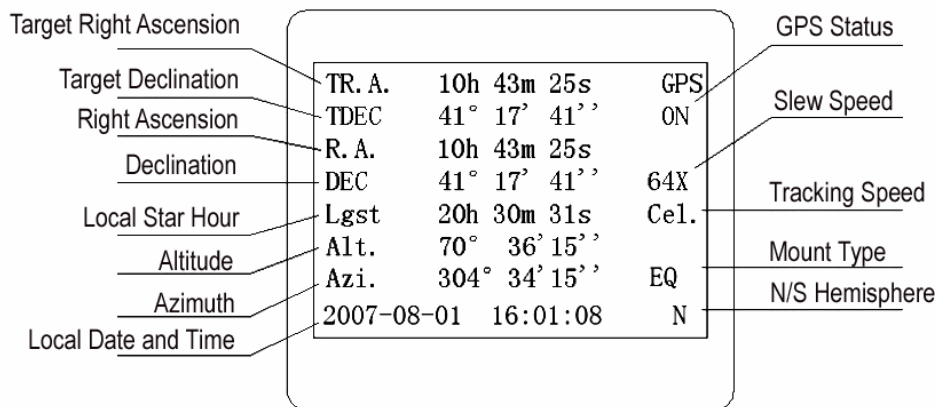

Figure 2. 8401 HC LCD Information Screen
The 8401 HC is designed to use for SmartStar-A GOTO mount and telescopes. It can also be used for iOptron's equatorial (EQ) mount, such as the SmartStar®-PR GOTO German Equatorial Mount and the GoToNova® Equatorial Kit, as well as all other AltAzimuth (A/A) mounts, which include all SmartStar® GOTO mounts and telescopes. It consists of a large 8-line LCD screen, which displays all the information as shown in Figure 2. The user interface is simple and easy to learn.